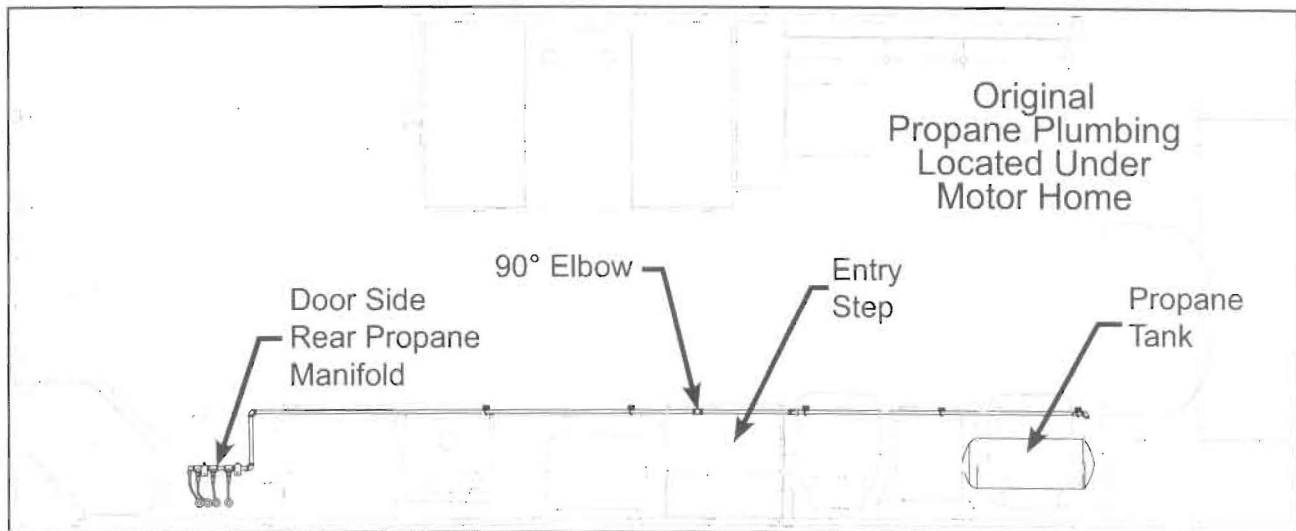

Figure 1
8. Locate the Propane manifold under the door side rear of the motor home. Use a small wire brush to remove dirt, debris, and any undercoating from the copper line brass flared fittings at the manifold. See Figures 1 and 2 on the next page.
9. Remove the four brass flare fittings from the door side rear Propane manifold. Be sure to use a back-up wrench on the fittings. Cover each exposed manifold port and open copper line with tape, immediately after disconnection, to prevent debris from getting into the system. See Figures 1 and 2 on the next page.
12. Remove the door side rear Propane manifold assembly by unthreading the forward manifold Tee from the forward Propane distribution pipe. Use care to prevent debris from entering the manifold assembly. Clean debris from the Tee with a small wire brush. Cover the open Tee end of the door side rear Propane manifold with tape. Retain for later reassembly. See Figures 1 and 2.
13. Remove and discard the U-bolt clamps securing the Propane plumbing between the door side rear Propane manifold location and the rear side of the entry step. Hanger Brackets will be reused during reassembly. See Figure 1.
14. Remove and discard the plumbing from the Propane manifold location forward of and including the 90° elbow, near the rear side of the entry step. See Figure 1.